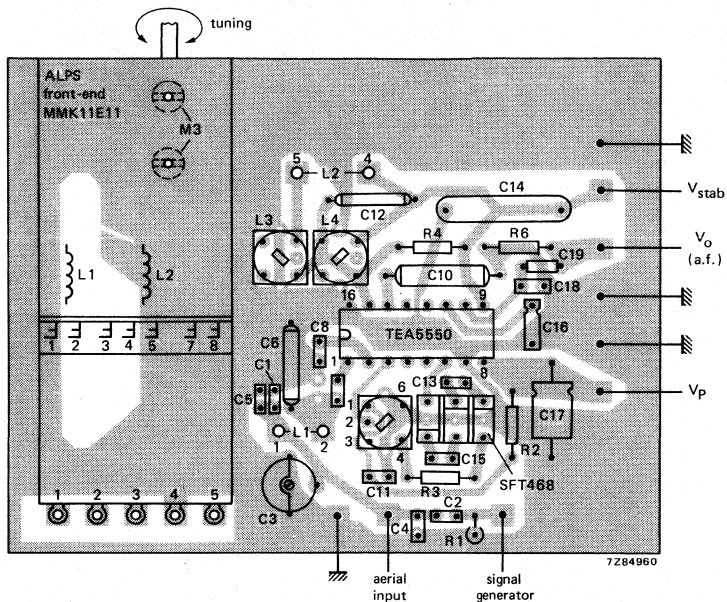

Fig. 5 Printed-circuit board component side, showing component layout. For circuit diagram see Fig. 4.
Fig. 4 Typical application circuit diagram for a single-tuned AM channel in car radio receivers using the TEA5550; S is AM/FM switch; for printed-circuit board see Figs 5 and 6.
- Coil data: L1, L2 = tuning coils, ALPS unit MMK IIE11 (for coil connections see Fig. 5)